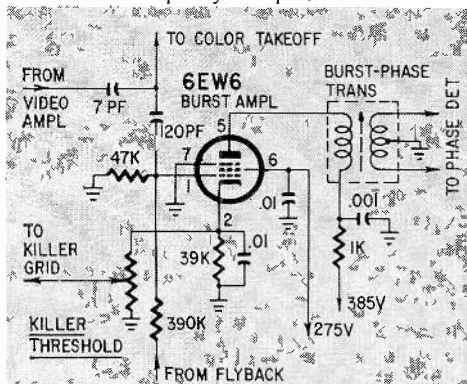

Fig. 1—Burst amplifier amplifies burst only, because it's keyed on grid with a flyback pulse. Input is from video stage.
**1. The burst amplifier (Fig. 1).** This is a standard pentode tube, with normal plate and screen voltages. The grid is keyed by a pulse from the flyback transformer, so that the tube actually con-